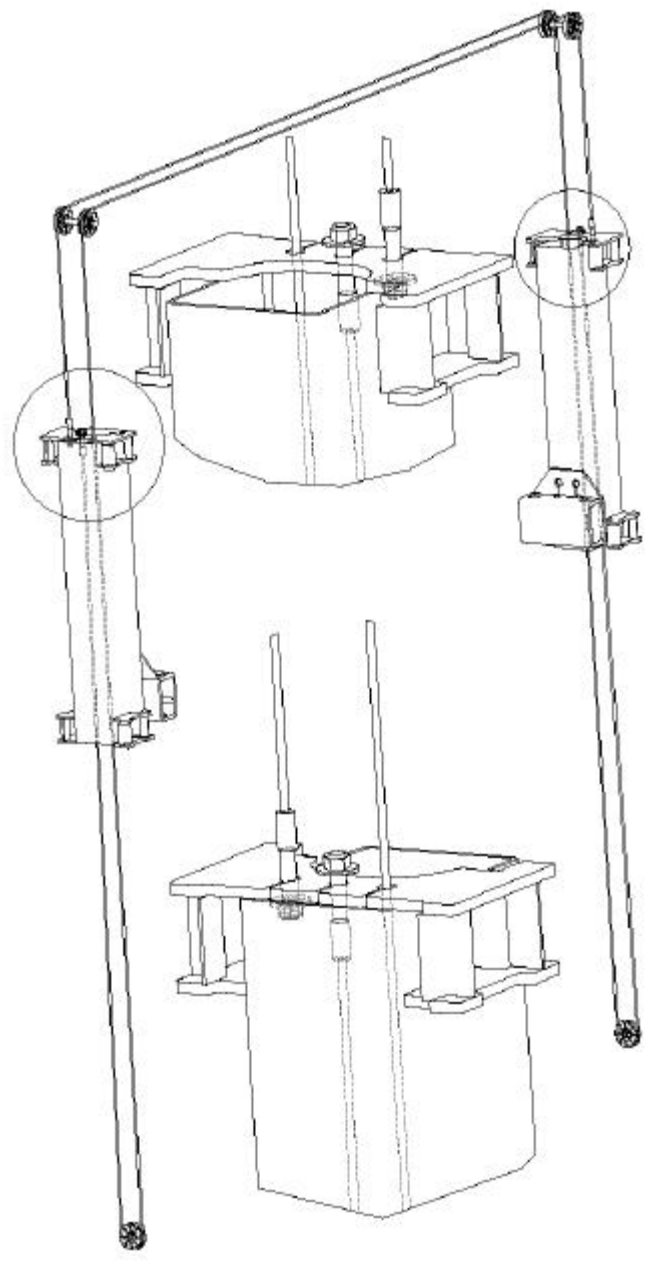

Figure 12
10. **Routing carriage equalization cables and offside hose, Figure 12.**